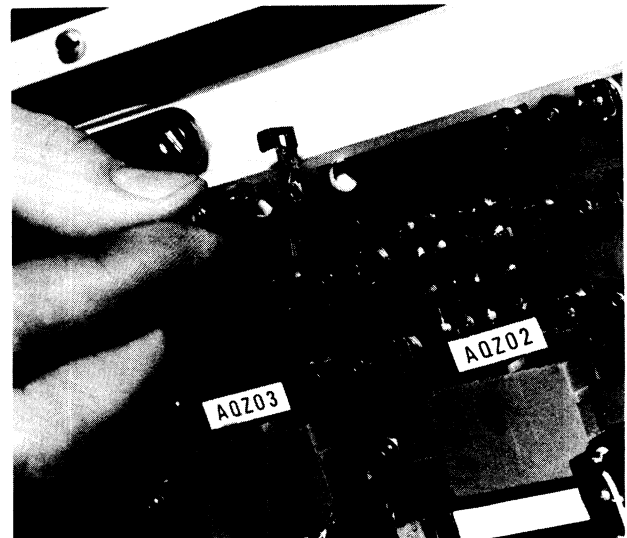

Figure 3-30. Lamp Replacement
3. Turn contact to free lamps (Figure 3-30).